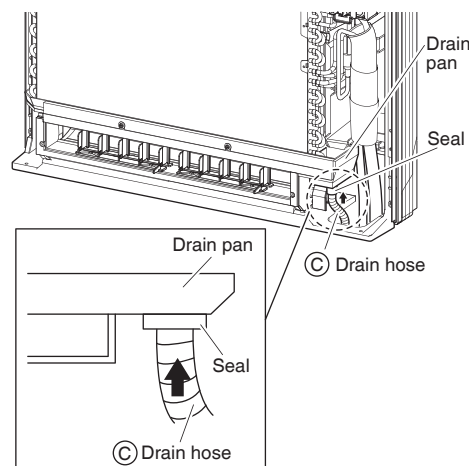

Fig. 2
- Insert the © drain hose into the socket of the drain pan. (See Fig. 2)